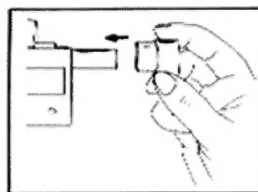

Fig. 4
4. Slide the main weight ( ⑫ ) onto the weight axis as close to the tonearm base as possible. (Fig. 4)